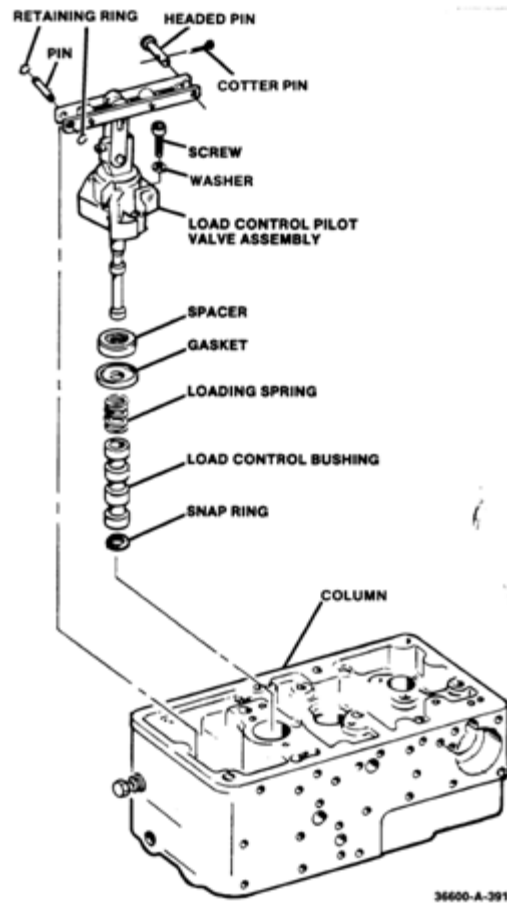

Figure 5-54 Load Control Bushing
- Install snap ring in load control bushing (Figure 5-54).